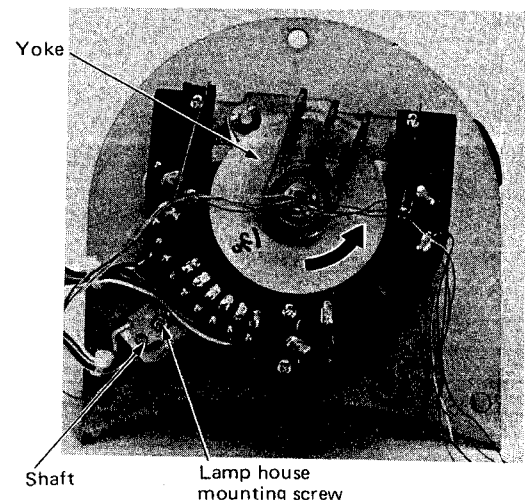

Fig. 21
8-(5) Removal of lamp house ass'y (Fig. 21)